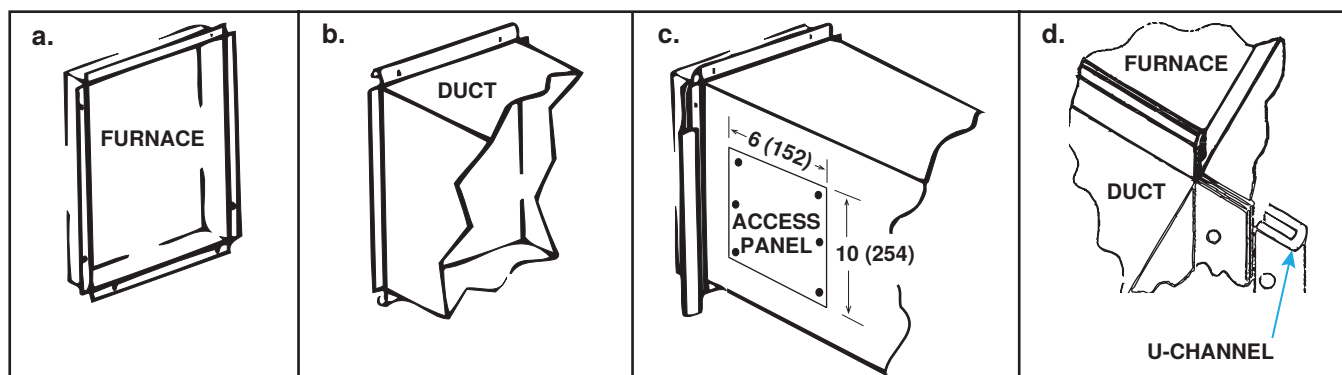

Figure 5. Connecting Ductwork to Furnace
- **Supply air duct/furnace horizontal connection:** Connect the duct to the furnace in accordance with the following steps shown in Figure 5:
- **Access panels:** Install removable access panels (see Figure 5) on both the upstream and downstream sides of the furnace. The access panels must be accessible when the furnace is in service and should be a minimum of 6 × 10 inches (152 × 254 mm) in size so smoke or reflected light may be observed inside the casing to indicate the presence of leaks in the heat exchanger. Ensure that the access panels are installed in such a manner so as to prevent leakage.